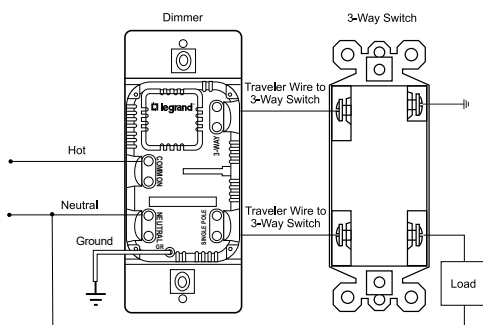

Figure 2 – 3-Way
- Connect dimmer as shown in the installation diagram using #12 or #14 AWG wire stranded or solid copper conductors. Note that the dimmer and 3-way switch positions may also be reversed from that shown. Strip the wire to the length shown on the back of the product (Figure 1 or Figure 2). Torque terminal screws to 14-16 inch lbs.